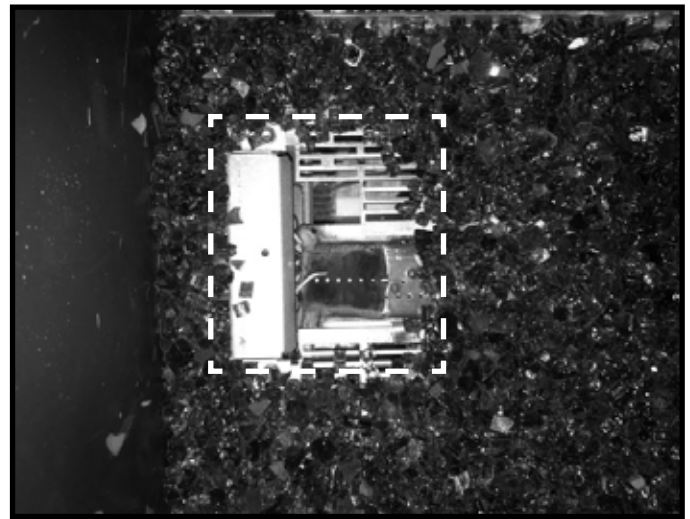
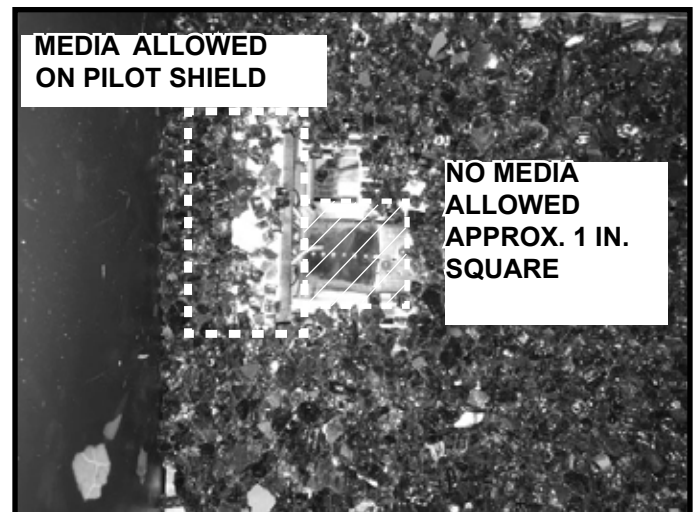

Figure 4. Media Installed with Media Placement Jig Removed
Figure 5. Pilot Shield Media installation.
6. Place the media set aside in Step 1 over the pilot shield and areas shown in Figure 4 uncovered by removing the media placement jig. See Figure 4. **DO NOT** allow any media in the 1 inch area shown in Figure 5.